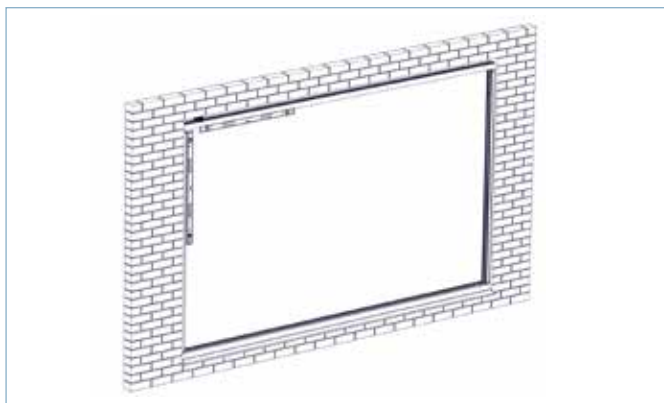

FIG 5F
- ▶ **5.7.** Using the string line and pinch rod or measuring staff, make sure the track does not bow inside to out, or up and down, as shown in FIG 5F.